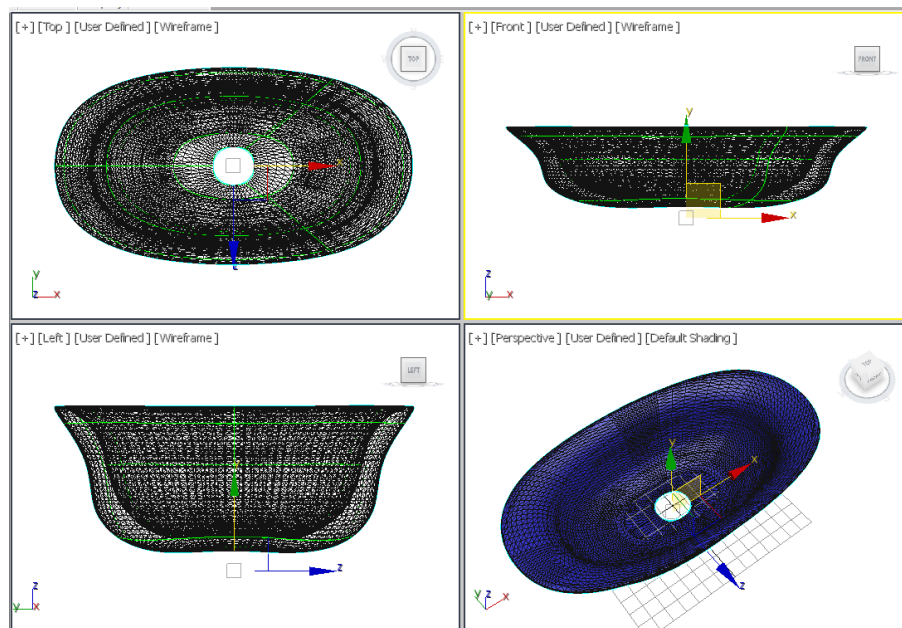

Figure 15-63 The washbasin modified at the **Curve** sub-object level
6. Select the **Curve** sub-object level and modify the shapes using the **Select and Move** and **Select and Uniform Scale** tools till you get a perfect shape of washbasin, refer to Figure 15-63. Note that you need to scale *Ellipse008* to a circular shape to fit the sieve in it.